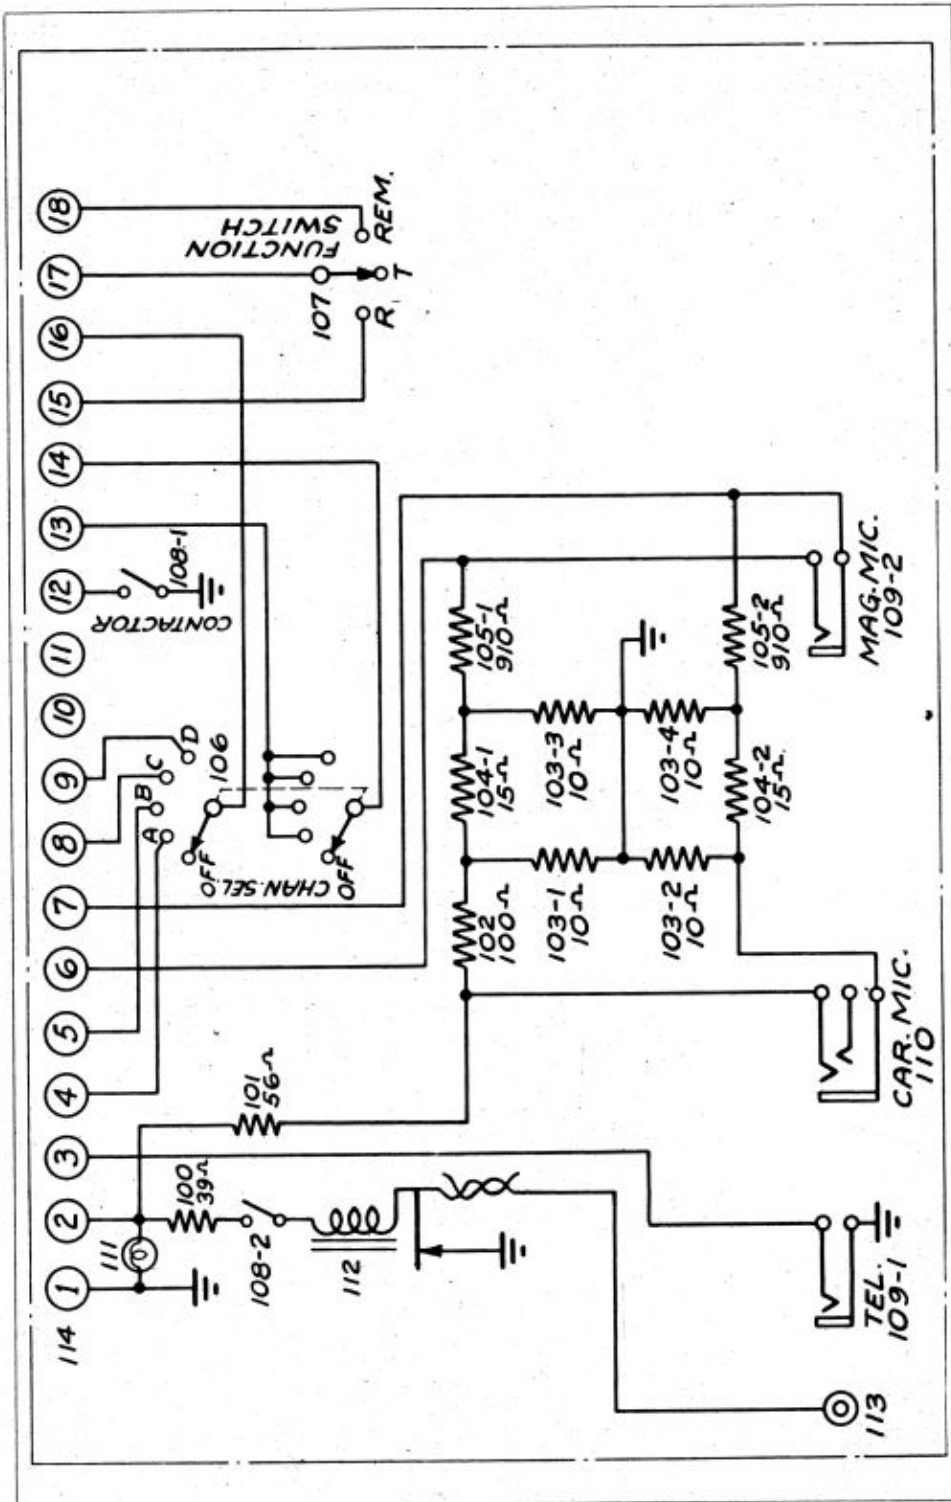

Figure 11—Control Unit BC-1303, Schematic Diagram
(1) The circuits of Control Box BC-1303 are connected to Rack FT-244-A through plug 114 on the control unit and socket 417 in the rack. (See figures 11 and 12.) Contact is made as follows:
The circuits of Control Unit BC-1303 are so simple that burned out or shorted resistors or defective switches can readily be located by simple continuity tests with Test Equipment I-56-A or its equivalent. The values of the resistors appear on the circuit diagram, figure 11.